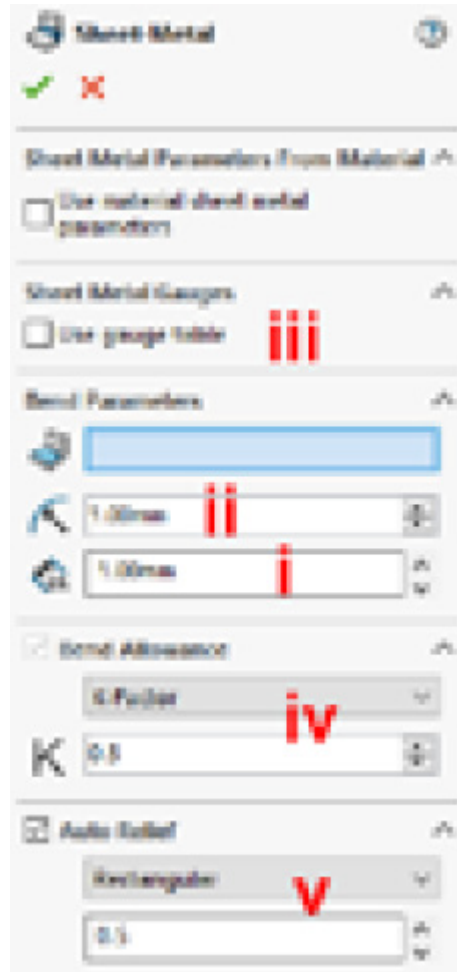

Figure 1.8: Sheet Metal properties
To set the thickness, adjust the value under the **Thickness** field (labeled **i** in *Figure 1.8*) and press the green **OK** check mark. For example, try setting **2mm** thickness and pressing **OK**. You should now see that the thickness of the **Base Flange** has changed from **1mm** to **2mm**.
Simply edit the **Sheet Metal** properties and adjust the value (labeled **ii** in *Figure 1.8*).
1. Put a check in the **Use gauge table** box at the top of the **Sheet Metal** properties (labeled **iii** in *Figure 1.8*). A table can then be selected from the drop-down list.
The next Sheet Metal property that affects your models is the **Bend Allowance** property (labeled **iv** in *Figure 1.8*). This allows us to accurately calculate the size of bent *parts* once they have been unfolded into a flat sheet.